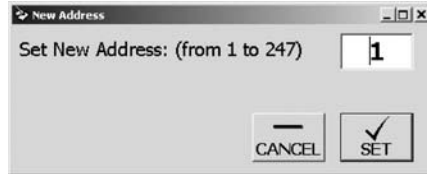

Figure C-3. New Address Screen
- The main screen (FIGURE C-3) appears after the "Starting the Program" procedure is completed.
- When the SET ADDRESS button is selected, the New Address screen appears (FIGURE C-3).